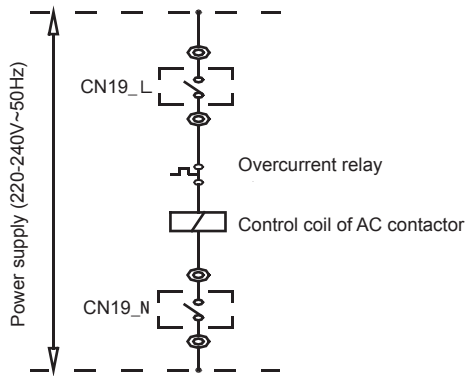

Fig.5-2
Step 9. Connection of control wires of auxiliary electric heaters: the control wires of AC contactor of the auxiliary electric heater must pass the connection terminals CN19_L and CN19_N of the main unit, as shown in Fig. 5-2.